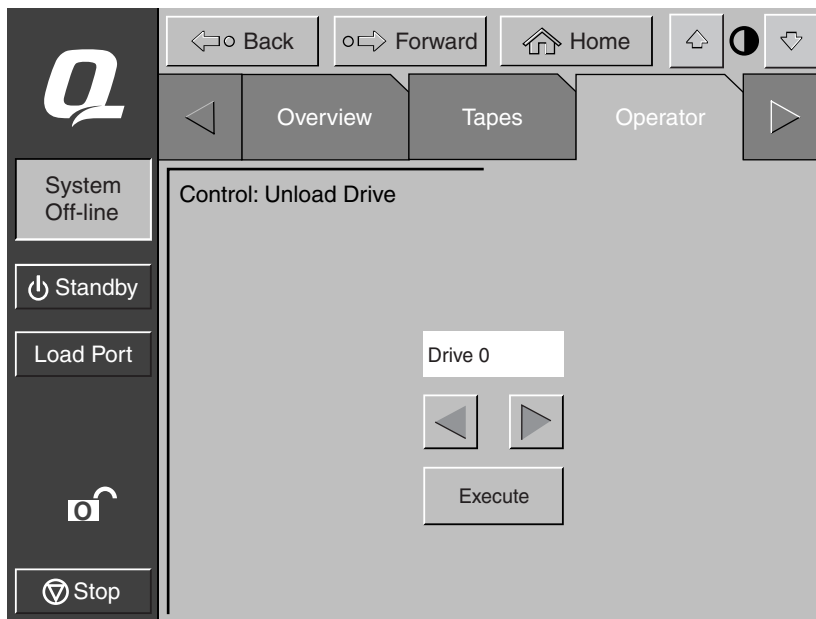

Figure 4-8. Control: Unload Drive screen
1. On the Operator screen, press the **Unload Drive** button. The control panel displays the Control: Unload Drive screen (see Figure 4-8).